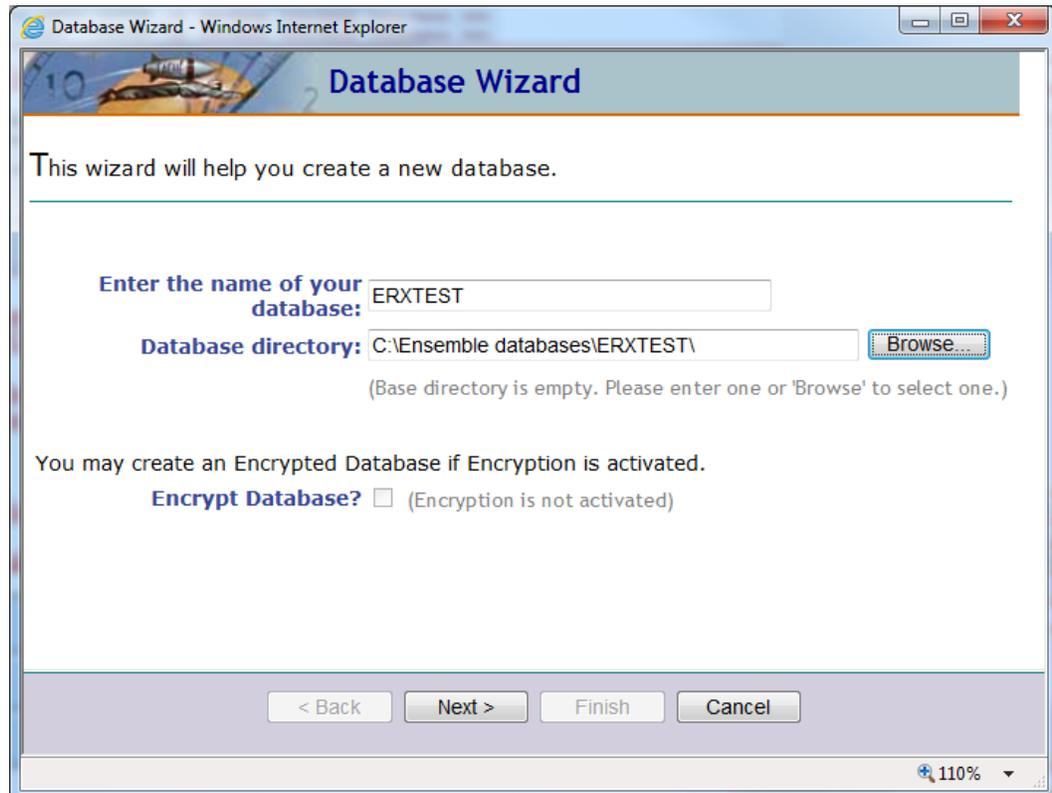

Figure 3-4: **Database Wizard** dialog
7. Type the name of the e-Prescribing database as shown in Figure 3-4: